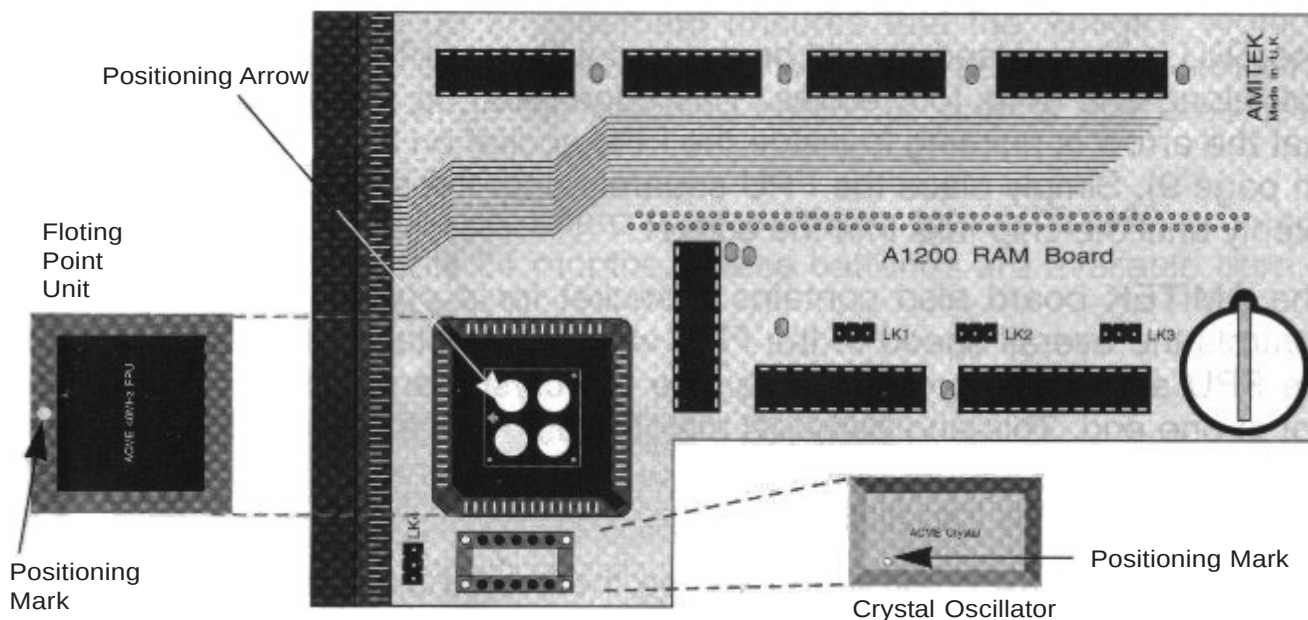

Figure 3.1 - Positions of FPU and Crystal
1. The FPU is square and should be marked with a positioning mark (usually a dot) along one of its four edges. This edge must be aligned with the edge that the arrow is pointing to inside the FPU socket on the board (see fig. 3.1 on page 9). Simply place the FPU squarely onto the socket and push down evenly until the chip falls into the socket.
2. The AMITEK board also contains a socket for a crystal which regulates/controls the overall speed of the FPU when it is installed. It is smaller than the FPU and silver in colour. Examine the crystal and locate the notch or dot at one end. This end needs to match the socket end, with the half circle cut-out facing the jumper (see fig. 3.1 on page 9). Line up the markings and push the chip firmly into place.